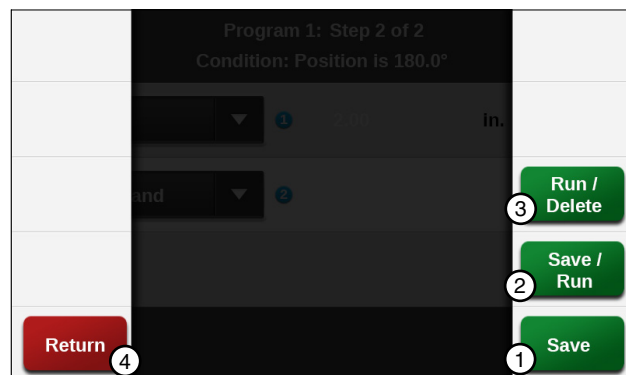

Figure 158-3 1. Save 3. Run/Delete
9. Finish the program by selecting one of the following. Refer to Figure 158-3.